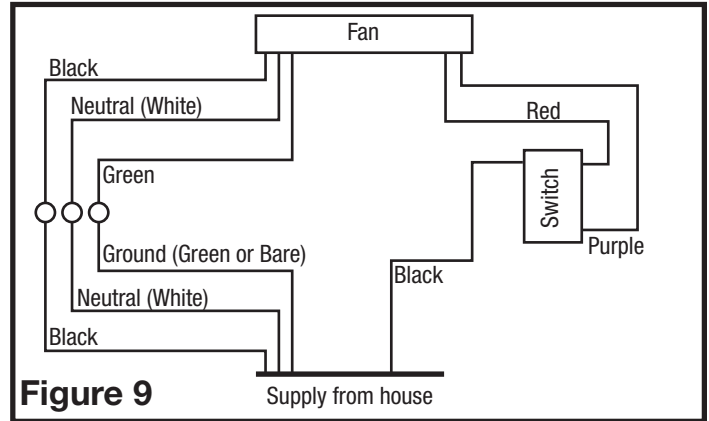

Figure 9
3. For two speed fans wired for continuous ventilation, connect the White wire of the fan to the White (Neutral) wire from the power source. Connect the ground wire from the house to the green wire from the fan housing. Connect the Black wire of the fan to the Black wire (Hot) from the power source. The fan will operate on low speed continuously and boost to high speed when motion is detected. Using a properly grounded standard duplex toggle switch (such as Leviton 5224-2W, not included) connect the black wire from the supply to one side of the top and bottom switch. Connect the red wire (light) from the fan housing to the other side of the top switch and connect the purple wire (night light) from the fan housing to the other side of the bottom switch. A manual override switch (not included) can be used to provide a manual fan Off function (Figure 9).